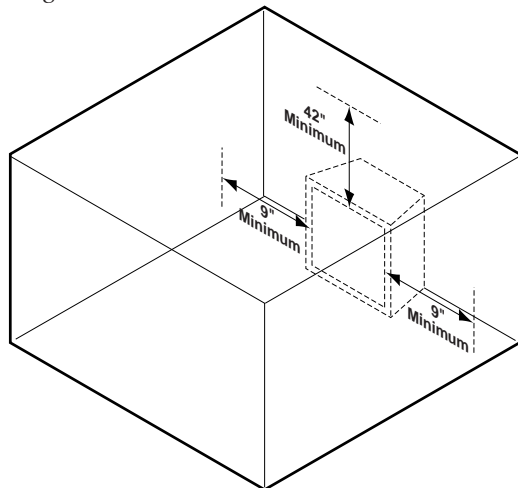

Figure 19 - Clearances and Height Requirements for DFX24/DBX24
1. **Sidewall Clearances** — The clearance from the inside of the appliance to any combustibles adjacent wall should not be less than 9" for the DBX24/DFX24 or less than 15" for the DFX32. Refer to *Figures 19 and 20*.
2. **Ceiling Clearance** — The ceiling must be at least 42" from the top of the firebox opening. Refer to *Figures 19 and 20*.
The dimensions shown in *Figures 19 through 21* are minimum clearances to maintain in installing this heater. Left and right clearances are determined when facing the front of the heater.